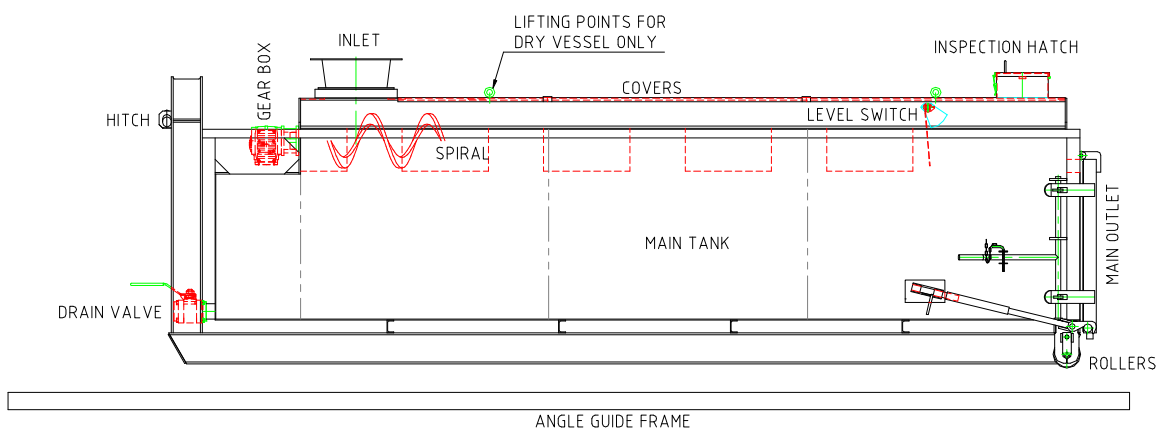

*Figure 1.2a*
There is one identification plate (ID) on each Spirotainer. *Figure 1.2a* shows an example of a typical ID plate.